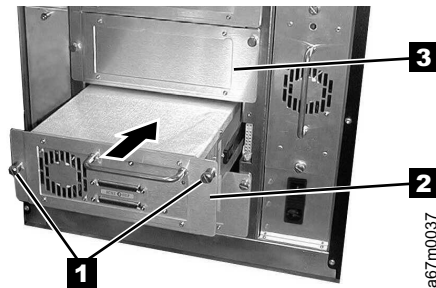

Figure 24. Installing a drive sled
- b. Slide the drive sled **2** into position and tighten the two captive thumbscrews **1** (see Figure 24).